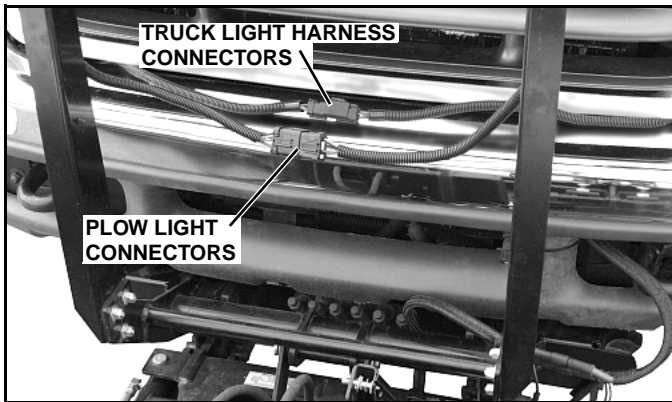

Figure 1-20
6. Unplug light harness connectors on truck, and disconnect plow light connectors, which had been plugged together for corrosion protection during storage (See Figure 1-20).